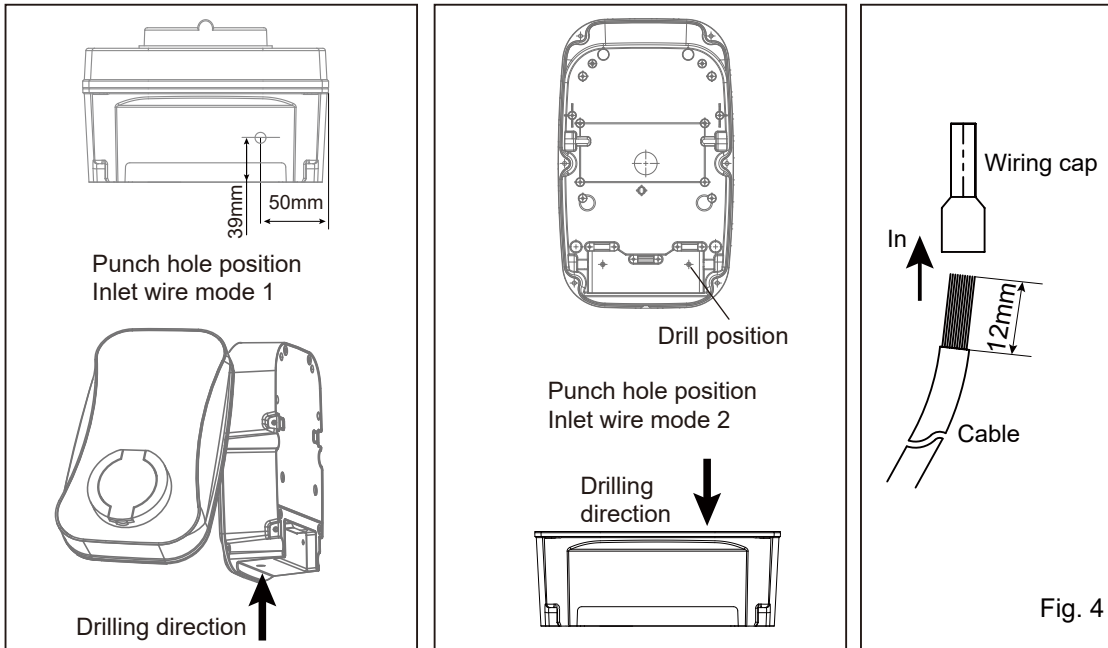

Fig. 4
**NOTE:** connecting wiring reference Fig. 4
**NOTE:** connecting wiring refer to Fig. 4